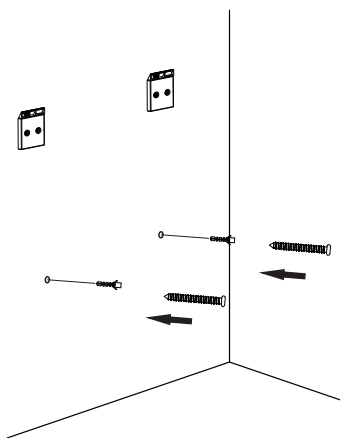

Fig.17
- 2.2 Remove the mirror cabinet, drill the fixing hole in the wall in the marked position, and place the expansion plugs (Fig.17).